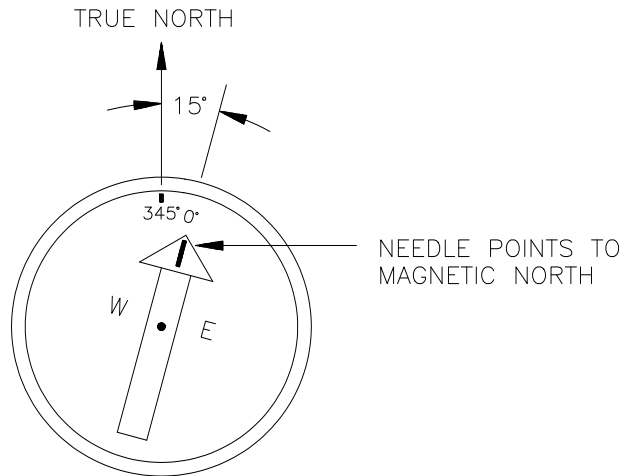
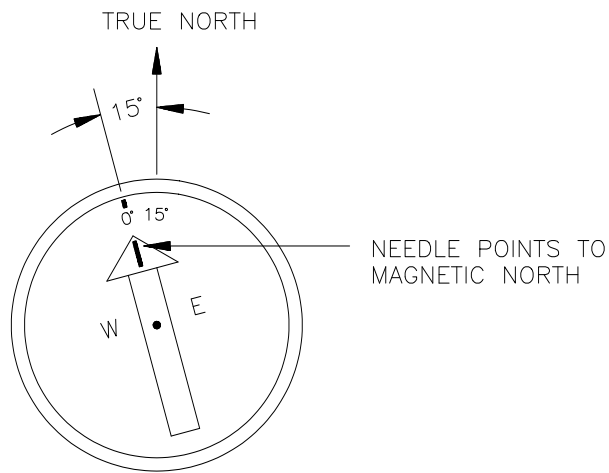

FIGURE 8.1-2. A declination angle East of True North (positive) is subtracted from 360 (0) degrees to find True North
FIGURE 8.1-3. A declination angle West of True North (negative) is subtracted from 0 (360) degrees to find True North
Declination angles are always subtracted from the compass reading to find True North. A declination angle East of True North is reported as positive a value and is subtracted from 360 (0) degrees to find True North as shown Figure 8.1-2. A declination angle West of True North is reported as a negative value and is also subtracted from 0 (360) degrees to find True North as shown in Figure 8.1-3. Note that when a negative number is subtracted from a positive number, the resulting arithmetic operation is addition.